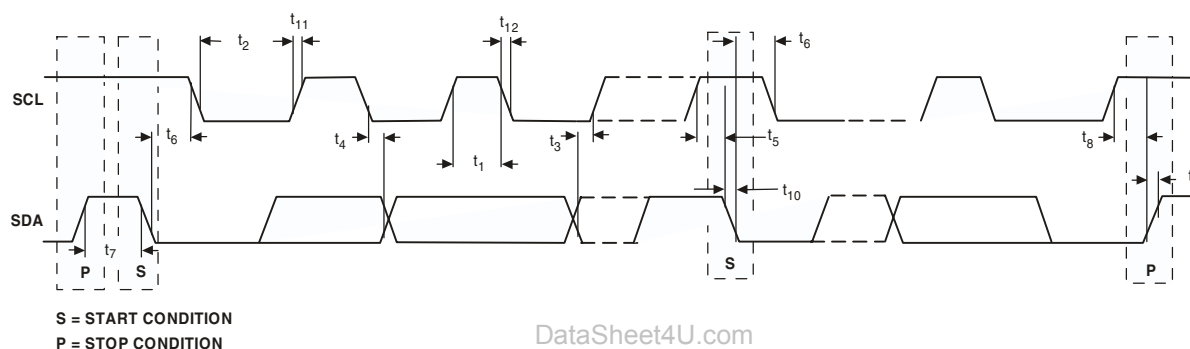

Figure 2. Two-Wire Serial Interface Timing Diagram
**I2C TIMING SPECIFICATIONS4****Table 2.** VDD = 2.7 V to 5.5 V; all specifications TMIN to TMAX, fSCL = 3.4 MHz unless otherwise noted. See Figure 2.
4 See Figure 2. HS-Mode timing specification applies to the AD5602/12/22-1 only. Standard and Fast-mode timing specifications apply to both the AD5602/12/22-1 and AD5602/12/22-2. CB refers to the capacitance load on the bus line.
For the DAC, relative accuracy or Integral Nonlinearity (INL) is a measure of the maximum deviation, in LSBs, from a straight line passing through the endpoints of the DAC transfer function. A typical INL vs. code plot can be seen in Figure 2.